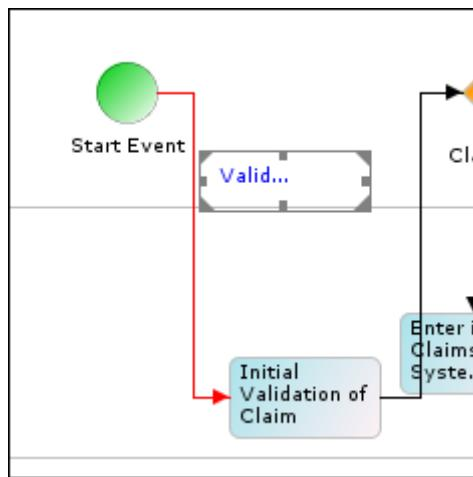

Figure 39: Repositioning Control Flow Label
3. Use the desired arrow key to move the activity element in the preferred direction (see Figure 39).